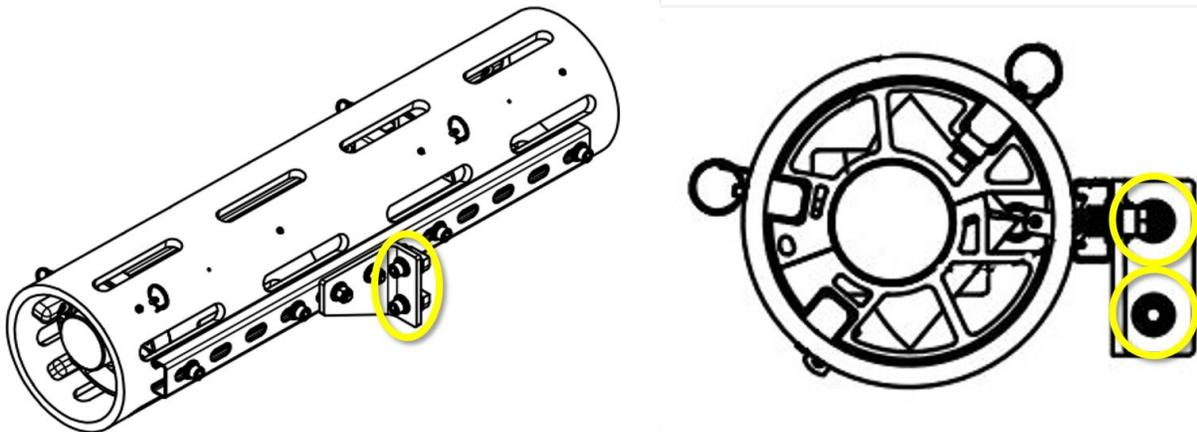

Figure 73. Remove the 2 Bolts that Attach the Mount
**STEP 4** | Using a 5/16th Allen wrench, remove the SUNA PVC enclosure from the in-stream anchor (**Figure 73**). Remove the bolts connecting the L Bracket to the Unistrut. Be aware, you will need to catch the nut on the screw before it falls off and flows downstream. In the event you do lose a nut, order spares (0329850000Nut, Channel w/o spring retainer, 3/8-16 Stainless). It is also OK to pull out the locking pins and slide the sensor out from the enclosure, along with the captive discs; however, this method may make it harder to align the captive discs with the pinholes on the PVC enclosure underwater.